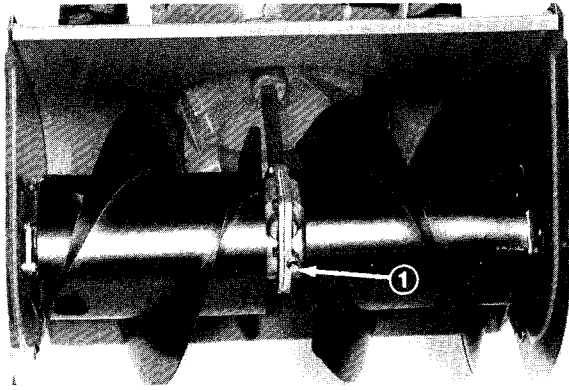

Figure 30
1. Remove pipe plug (Fig. 30).